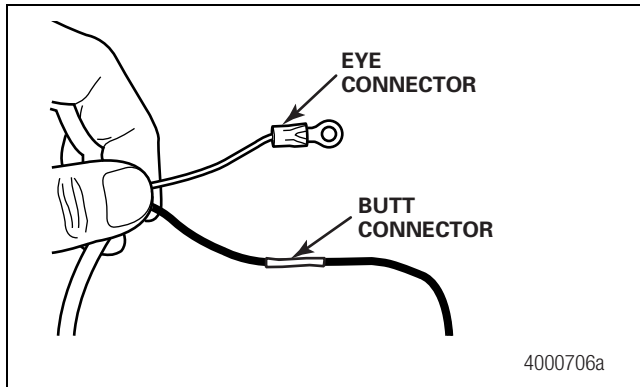

Figure 2.73
9. In the trailer seven-way box, connect the white wire eye connector from the control box to a pin that will supply constant power. Connect the white wire from the light to the ground. Figure 2.73.